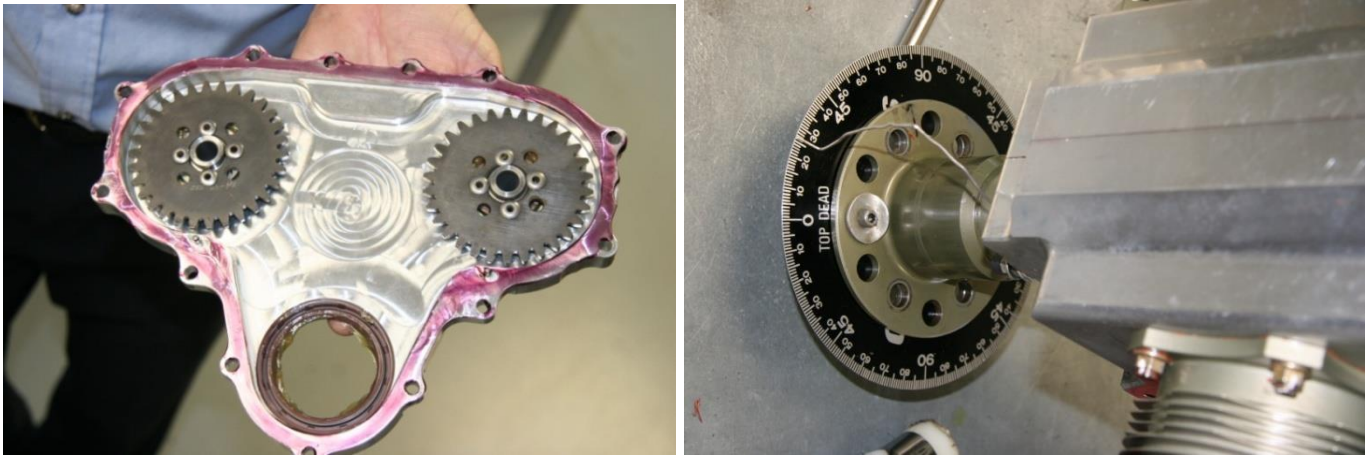

Figure 177 – Fitting Distributor Case & Setting Timing
- Apply Loctite 515 sealant to the gear case as shown in Figure 177.